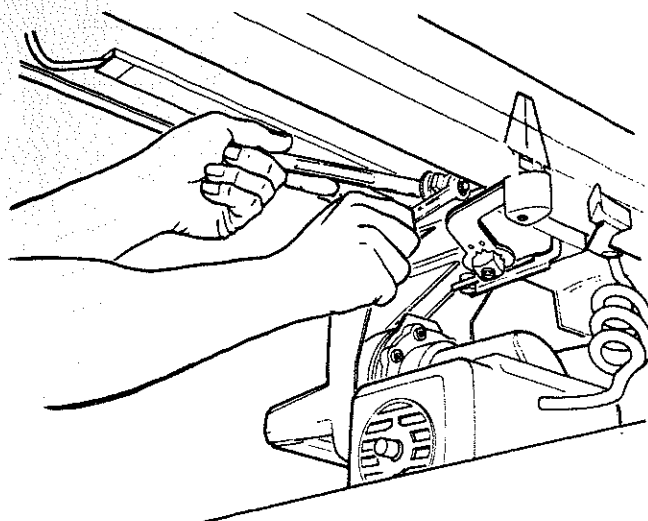

Fig. 182 - Location of Hex Nut
2. To adjust the bearing, use a 9/16 inch wrench to hold the bolt head while using a 1/2 inch wrench to loosen the hex nut. (Figure 182)